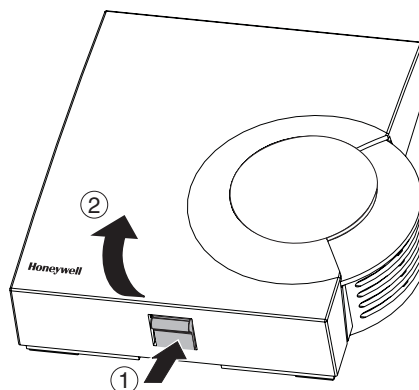

Fig. 1: Removing the housing cover
- ▶ Remove the housing cover of the room temperature sensor (see Fig. 1).